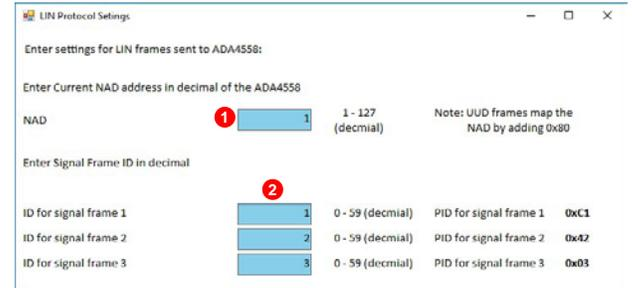

Figure 27. LIN Protocol Settings
The LIN frames sent from the LIN master must match its corresponding settings in the ADA4558 EEPROM for it to respond. The **LIN Protocol Settings** section allows the user to define the **NAD** address and the signal frame ID numbers (see Figure 27). These values are used by the on-board LIN master when sending LIN requests to the ADA4558.
- **NAD** = 1 (Label 1 in Figure 27)
- **ID for signal frame 1** = 1 (Label 2 in Figure 27)
- **ID for signal frame 2** = 2 (Label 2 in Figure 27)
- **ID for signal frame 3** = 3 (Label 2 in Figure 27)